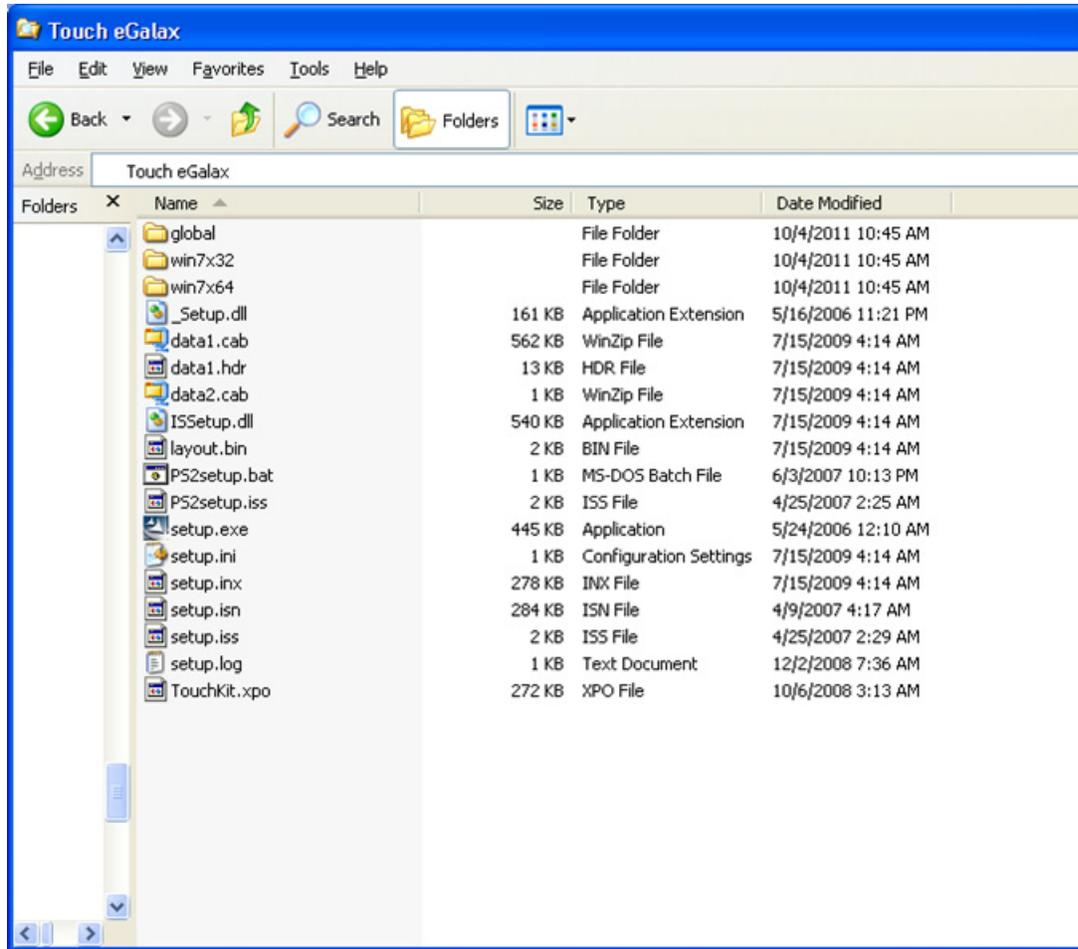

Figure 3-3 Locating the Setup.exe File
7. From the Windows **Start** icon, select **Run** and **Browse**. Select the directory to where the files were unzipped and locate the Setup.exe file, as shown in Figure 3-3.